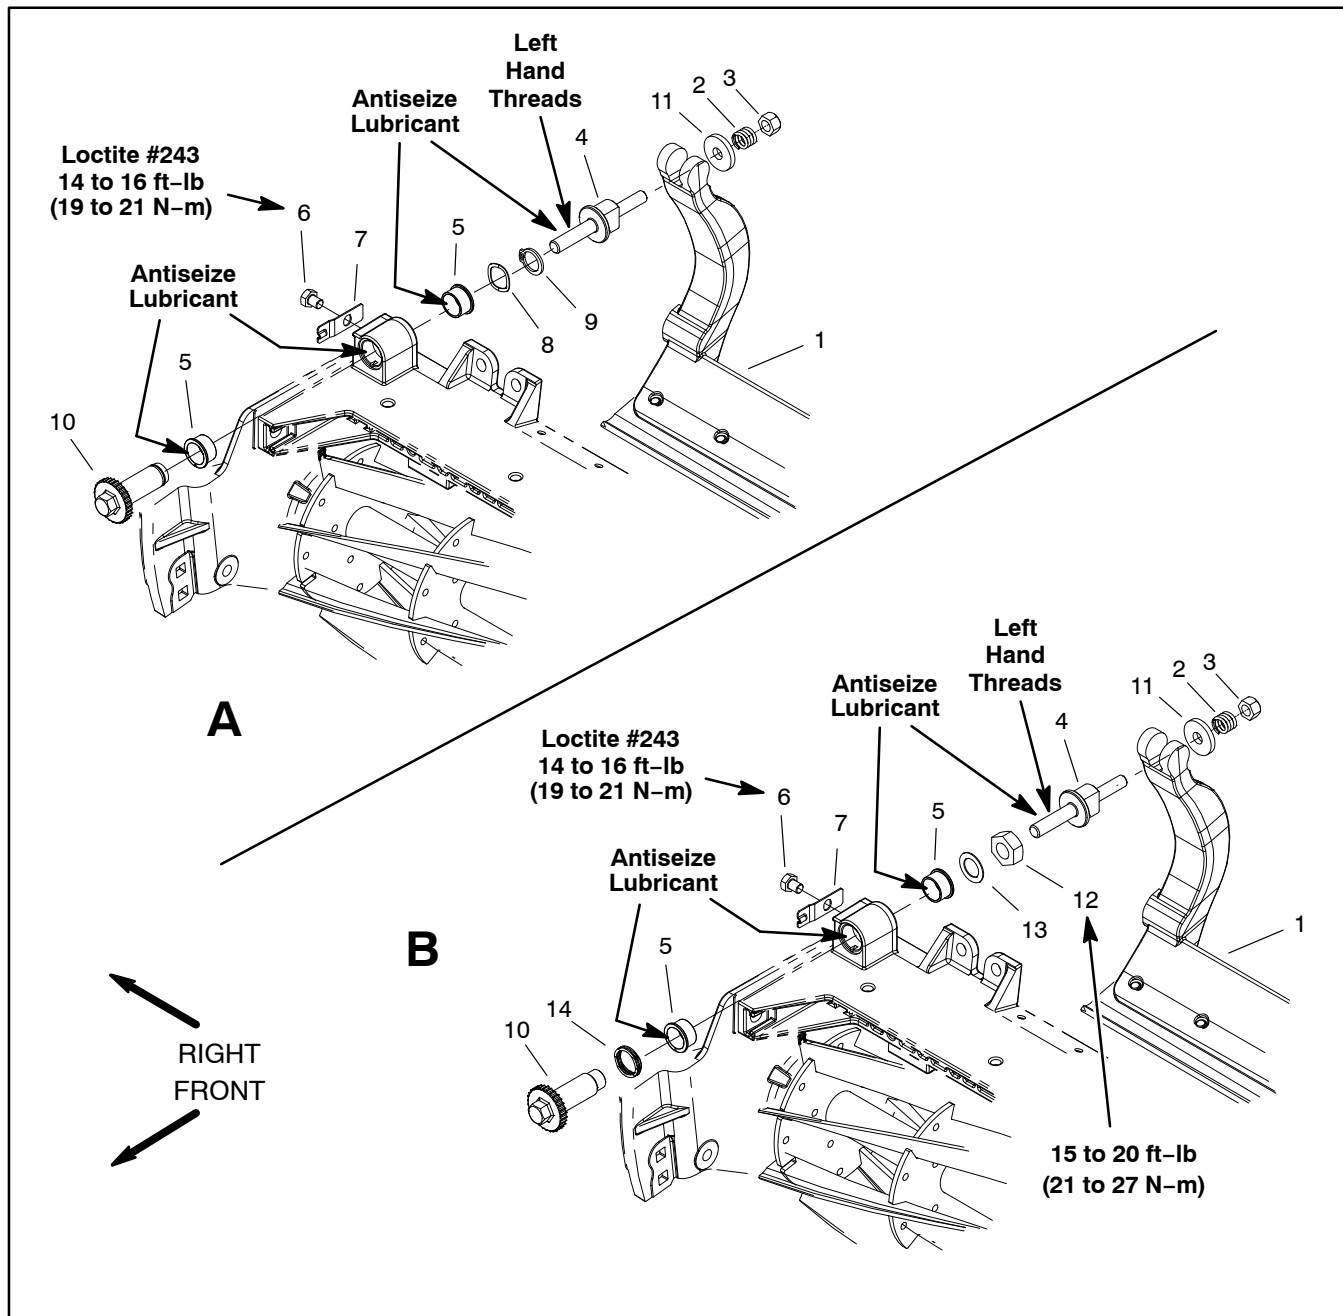

Figure 32
**NOTE:** The bedbar adjuster system for early production DPA cutting units (Fig. 32 A) used a retaining ring on the end of the bedbar adjuster shaft. Current production DPA cutting units (Fig. 32 B) include a lock nut on the end of the bedbar adjuster shaft. Upgrading to the
### Removal (Fig. 32)
1. Remove lock nut (item 3), compression spring and washer from bedbar adjuster screw (item 4).
3. Remove bedbar adjuster screw (left hand threads) from the bedbar adjuster shaft (item 10).
- A. On early production cutting units (Fig. 32 A), remove retaining ring and wave washer from adjuster shaft. Slide adjuster shaft from cutting unit frame.
- B. On current production cutting units (Fig. 32 B), remove lock nut and flat washer from adjuster shaft. Slide adjuster shaft and wave washer from cutting unit frame.
5. Inspect flange bushings (item 5) in cutting unit frame and remove if necessary.
6. If detent (item 7) is damaged, remove it from cutting unit side plate.
### Installation (Fig. 32)
1. If detent (item 7) was removed, apply Loctite #243 (or equivalent) to threads of cap screw and secure detent to cutting unit side plate with cap screw. Tighten cap screw from **14 to 16 ft-lb (19 to 21 N-m)**.
2. If flange bushings (item 5) were removed, apply anti-seize lubricant to bore of cutting unit frame. Align key on bushing to slot in frame and install bushings into frame. Apply antiseize lubricant to bore of each flange bushing.
A. On early production cutting units (Fig. 32 A), slide bedbar adjuster shaft into flange bushings in cutting unit frame. Secure adjuster shaft with wave washer and retaining ring.
B. On current production cutting units (Fig. 32 B), slide wave washer onto adjuster shaft and then slide adjuster shaft into flange bushings in cutting unit frame. Secure adjuster shaft with flat washer and lock nut. Tighten lock nut to shoulder of adjuster shaft and then torque lock nut from **15 to 20 ft-lb (21 to 27 N-m)**.
**NOTE:** Inside threads in bedbar adjuster shaft (item 4) are left-hand threads.
4. Apply antiseize lubricant to left hand threads of bedbar adjuster screw (item 4). Thread bedbar adjuster screw into adjuster shaft (item 10).
5. Install washer (item 11), compression spring and lock nut onto adjuster screw.